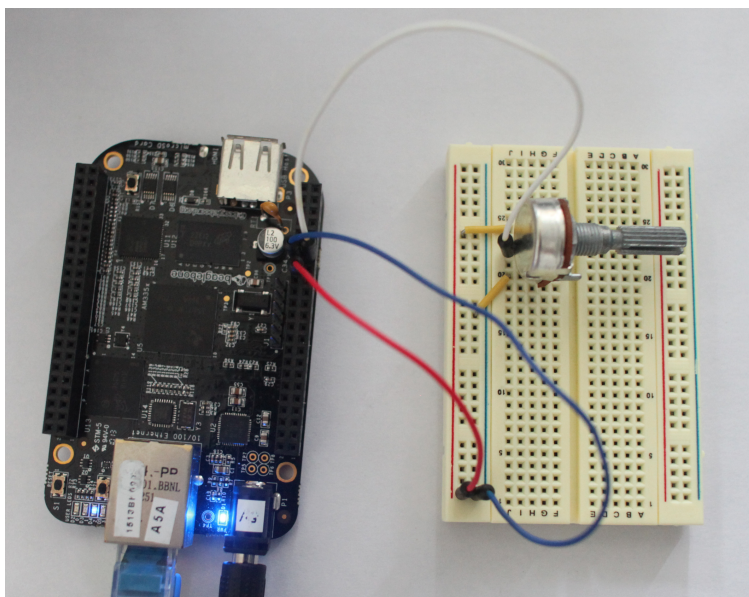

Figure 5-4. Connecting a potentiometer to pin 32 on header P9
3. Insert the 2K potentiometer into the breadboard as shown in Figure 5-4.